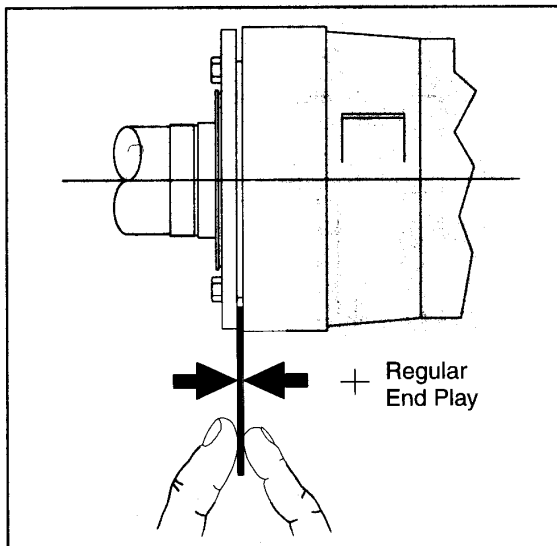

Figure 2-4 • Gap Measurement
- Measure the gap between end cover flange and housing face with feeler gauges as shown in Figure 2-4. Providing screws have been tightened evenly, this measurement method is usually satisfactory.
- Select SHIMS (025) of a total thickness equal to the gap measurement (obtained above) plus regular end play as shown in Table 2-2.